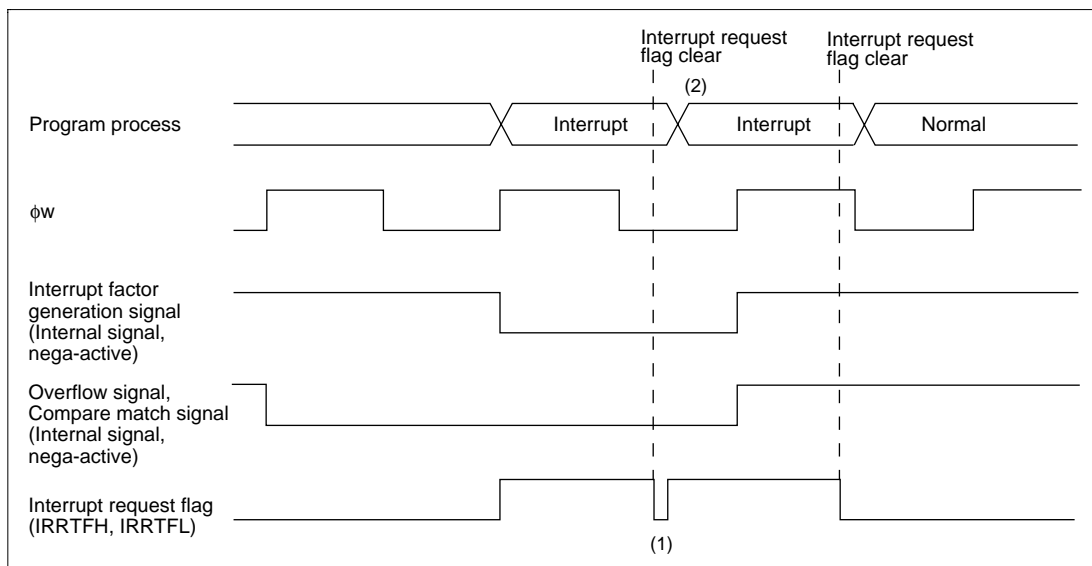

Figure 9.7 Clear Interrupt Request Flag when Interrupt Factor Generation Signal is Valid
When $\phi_w/4$ is selected as the internal clock, “Interrupt factor generation signal” will be operated with ϕ_w and the signal will be outputted with ϕ_w width. And, “Overflow signal” and “Compare match signal” are controlled with 2 cycles of ϕ_w signals. Those signals are outputted with 2 cycles width of ϕ_w (figure 9.7)
In active (high-speed, medium-speed) mode, even if you cleared interrupt request flag during the term of validity of “Interrupt factor generation signal”, same interrupt request flag is set. (figure 9.7 (1)) And, you cannot be cleared timer overflow flag and compare match flag during the term of validity of “Overflow signal” and “Compare match signal”.
For interrupt request flag is set right after interrupt request is cleared, interrupt process to one time timer FH, timer FL interrupt might be repeated. (figure 9.7 (2)) Therefore, to definitely clear interrupt request flag in active (high-speed, medium-speed) mode, clear should be processed after the time that calculated with below (1) formula. And, to definitely clear timer overflow flag and compare match flag, clear should be processed after read timer control status register F (TCSRFF) after the time that calculated with below (1) formula. For ST of (1) formula, please substitute the longest number of execution states in used instruction. (10 states of RTE instruction when MULXU, DIVXU instruction is not used, 14 states when MULXU, DIVXU instruction is used) In subactive mode, there are not limitation for interrupt request flag, timer overflow flag, and compare match flag clear.